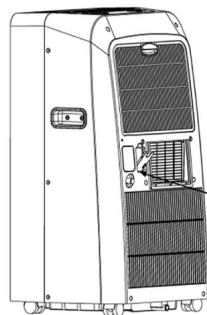

Fig.3
- Open the drain outlet cover, inside you will find a drain hose connector, attach a section of drain hose (included with this unit) to the connector. Place the open end of the hose directly over the drain area in your basement floor or in a water container (8liters /17.02 pints) (see Fig.3 &4).